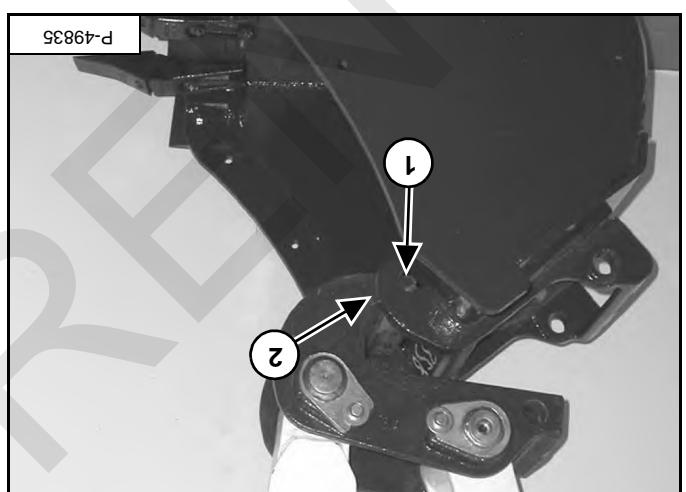

Figure 21
Inspect the mounting pins (item 1) (on the attachment) and hooks (item 2) [Figure 21] for wear or damage.